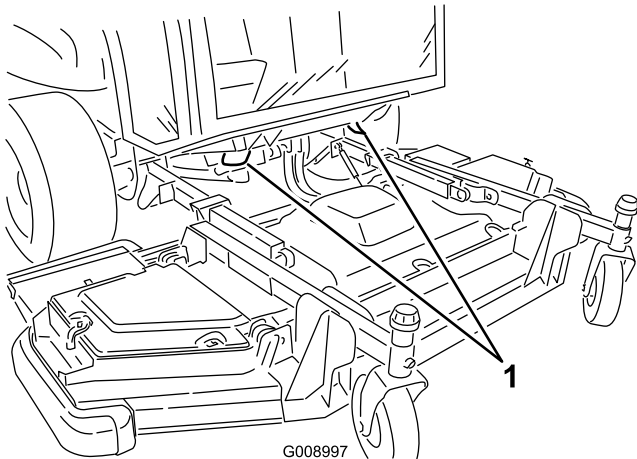

Figure 40
- Under the front of the operator's platform (2 places) (Figure 40).